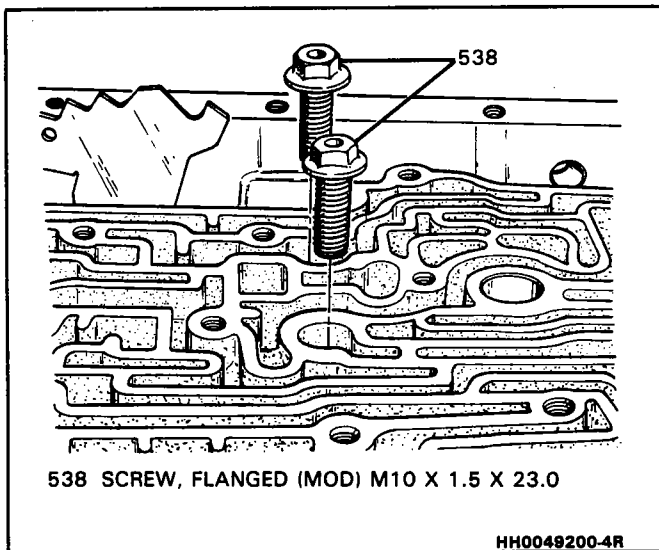

Figure 24 Removing Center Support Bolts
**↔ Remove or Disconnect (Figures 24, 25, 26)**